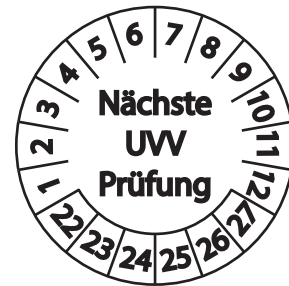

Fig. A2.10
- PERI recommends that the attachment device is marked with the date of the next inspection. (Fig. A2.10)